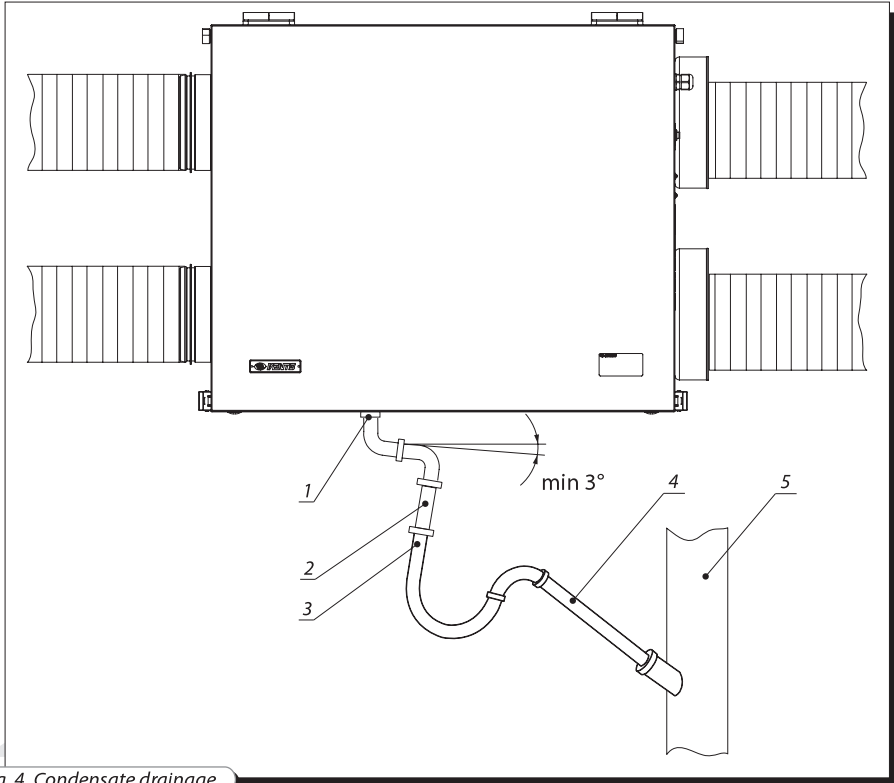

fig. 4. Condensate drainage
The unit is equipped with a condensate drain hose for condensate drainage (fig. 4). Connect the drain hose (1), U-trap (3) and drain system (5) with metal, plastic or rubber pipes (2 and 4). The pipes must be sloped down at least by 3°. Before starting operation of the unit fill the system with water and check that U-trap is always filled with water. Make sure that the water drainage is correct, otherwise some condensate may be accumulated inside the unit and provoke subsequent equipment damage and water ingress to the room. The condensate drainage system is designed for operation at the ambient temperature above 32 °F(0 °C). If the ambient temperature is below 32 °F(0 °C), insulate the drain system and provide air heating.